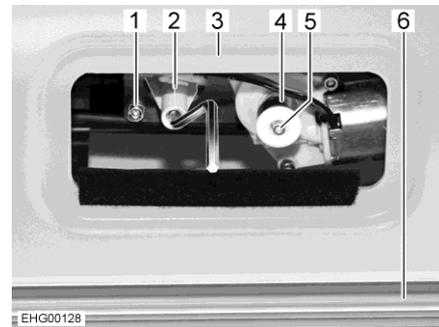

Fig. 34 Access to the motor
- Remove removable panel above the windscreen panelling (Fig. 34,3). The motor (Fig. 34,1) is accessible.
- Remove plastic sleeve (Fig. 34,4).
- Press and hold white securing button (Fig. 34,5).
- Position crank (Fig. 34,2) on crank socket.
- Move Roman shade (Fig. 34,6) upwards or downwards with the crank.
- If both holding bars have moved out of the visible range: pull securing button (Fig. 34,5) out again.